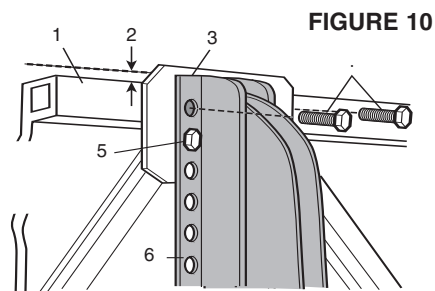
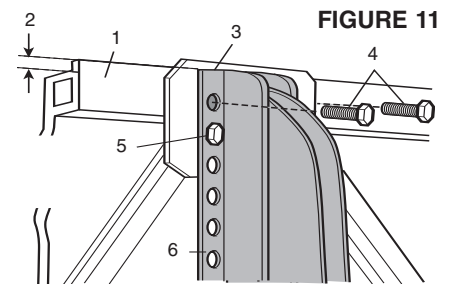

FIGURE 10
FIGURE 11
Note: The door arm should extend about 13mm (1/2") over the top of the door (Figure 10 or Figure 11). If not, check template and hole positions.
- Select and mark the (2) template holes which will allow the mounting screws the best possible support in the door, (preferable hole locations into the door's main bracing) as shown in Figures 10/11. **If possible, use additional screws.**